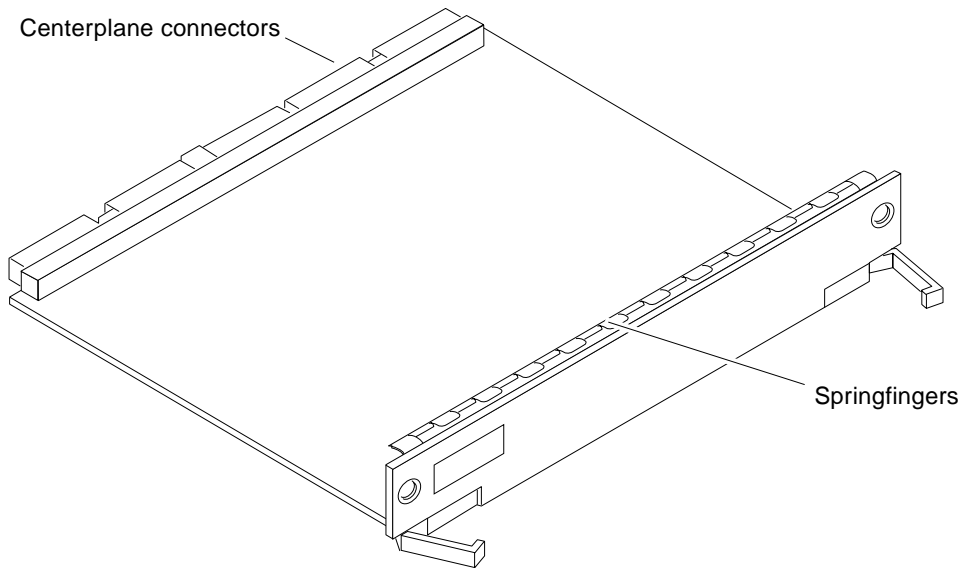

FIGURE 3-2 Load Board (Enterprise 6500 Systems Only)
- Empty slots in Enterprise 6500 systems must have a load board installed (FIGURE 3-2).